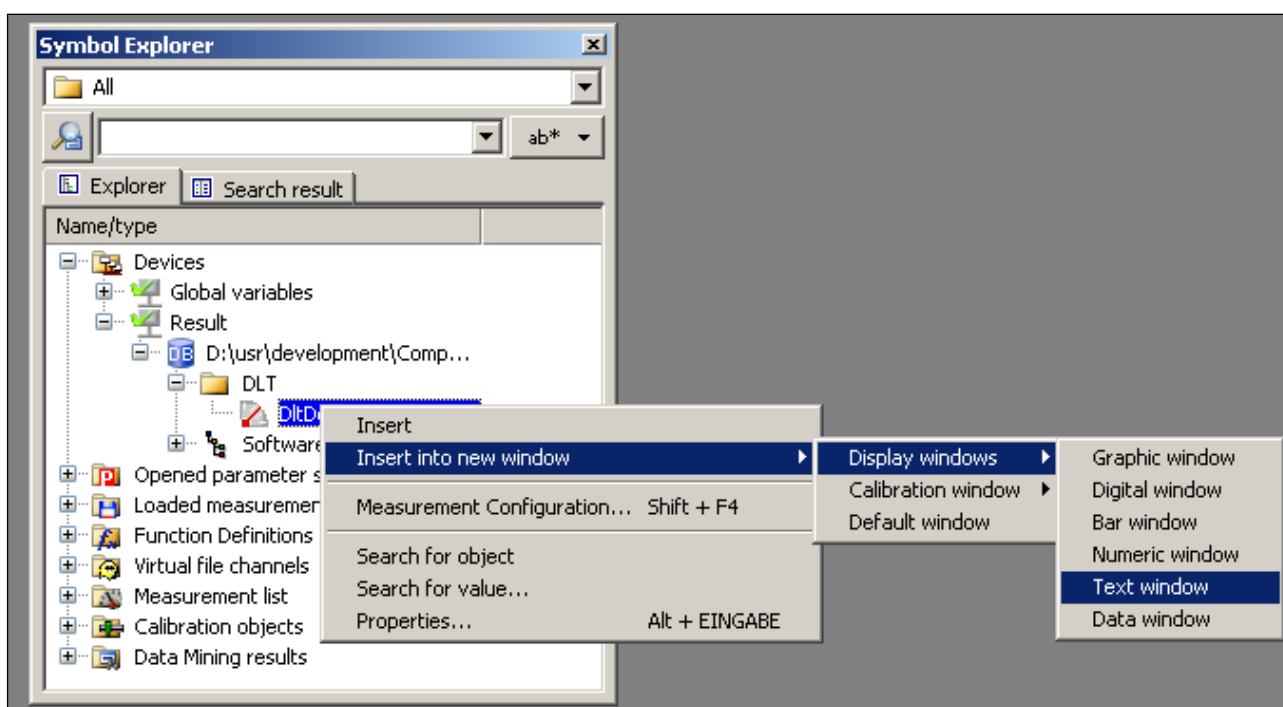

Figure 3-6 Select the DLT variable for measurement in a text window
- > DLT Reporting of DET Errors: Select the variable Dlt_DetErrorCode and add it to a text window as shown in Figure 3-6.